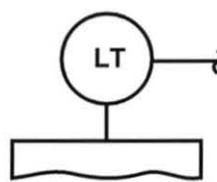

Figure 39. Level Sensing Element Symbol
3. Determine which type of level sensing element symbol is shown in figure 39.